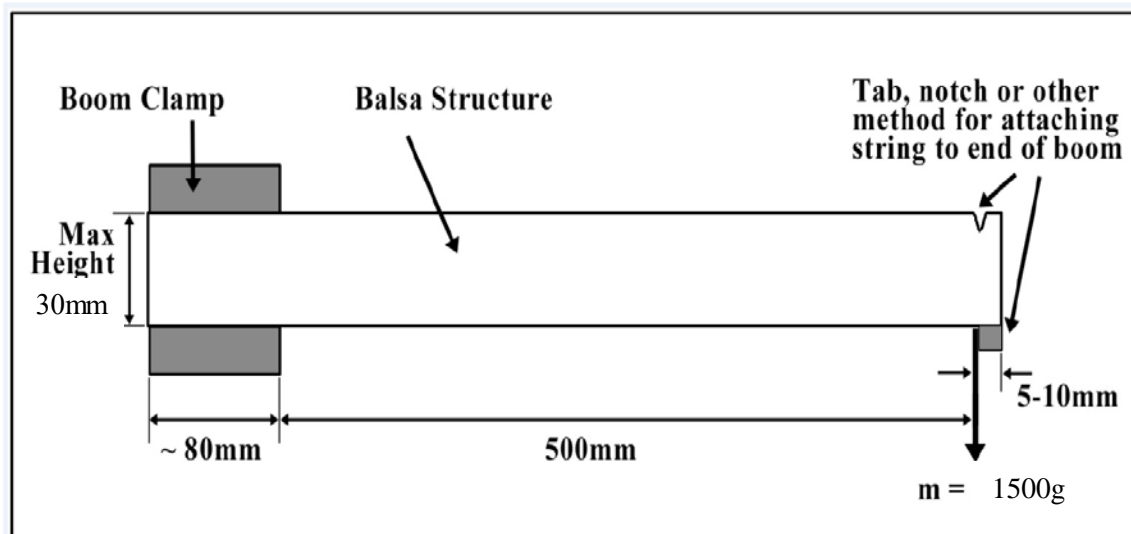

Figure 1: Side View of New Cantilever Beam. (Can be used as shown or inverted)
9. Assumptions: The above formulae work only for beams of **constant cross section** (i.e. beams that have the same cross section along their entire length). The maximum bending moment and deflection equations are true for an end point load on a cantilever beam as shown in Figure 1. The maximum stress equation is true for symmetrical cross section (e.g. T, I, Box, Channel) structures.